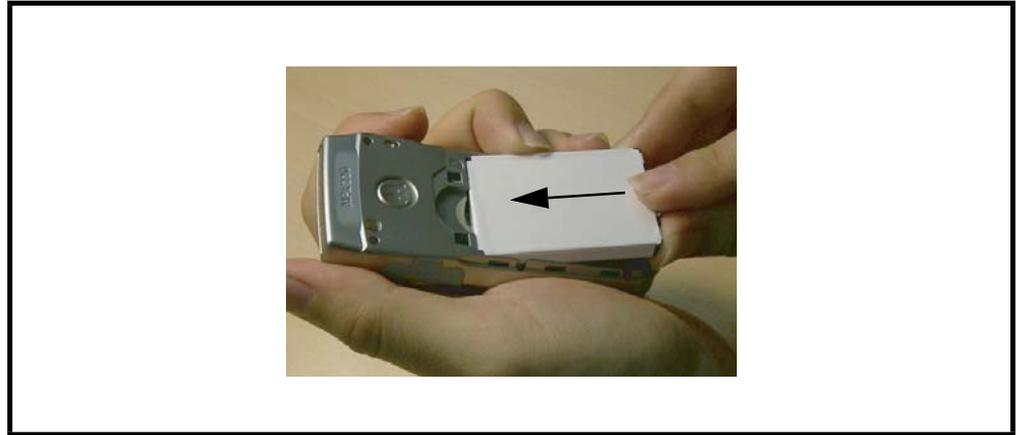

**Figure 6. Removing the Battery**
2. Remove the battery by lifting its bottom end and taking the battery up and away from the battery compartment as shown in Figure 6.